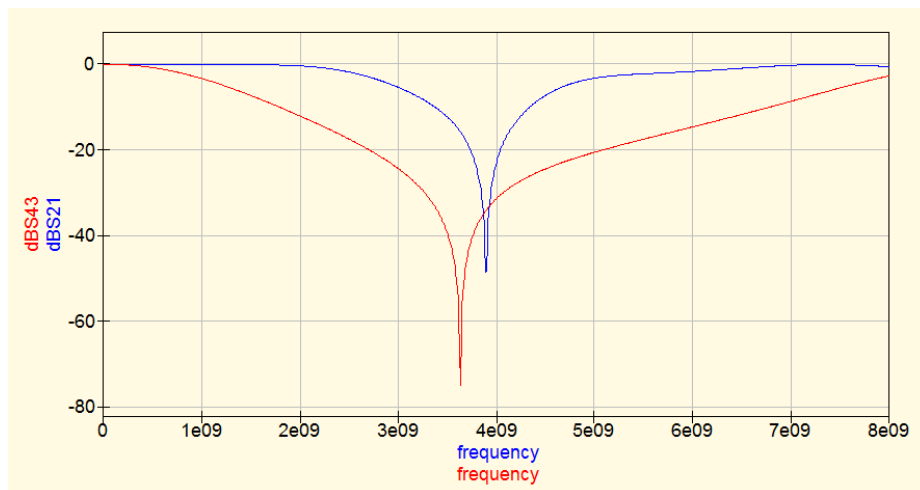

Figure 4
- 3.5 Present the calculation results as plots of **S[21]** and **S[43]** in the semi-logarithmic scale similar to those shown in Fig. 4.